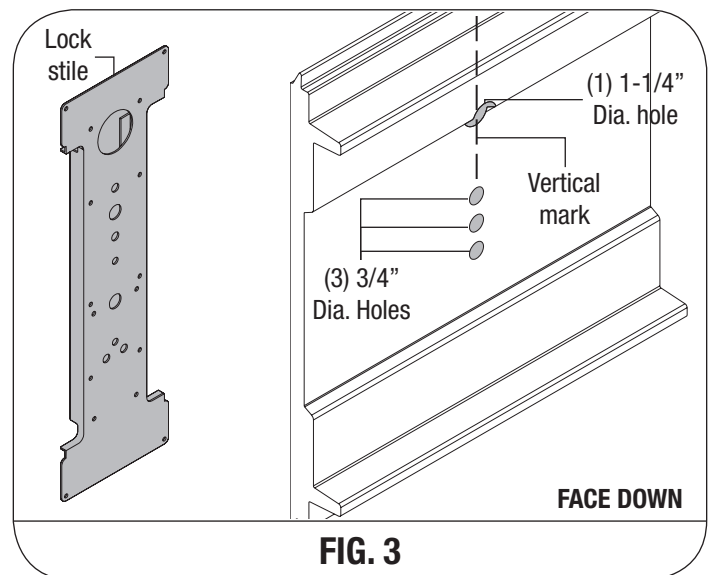

FIG. 3
5120/5145/9100/9405 & 9600 DOORS, (SEE FIG. 3): Place the lock section face up on (2) padded sawhorses for a single car door or (3) padded sawhorses for a double car door. Locate the middle of the center stile, measure the distance from the end of the section to the middle of the center stile. Turn the section face down, transfer the measurement and mark a light vertical line. Align the center of the lock stile with vertical mark, use the lock stile as a template to mark the (4) holes, remove the lock stile and drill the (3) bottom holes to 3/4" diameter and the top hole to 1-1/4" diameter, drilling all (4) holes completely through the section.